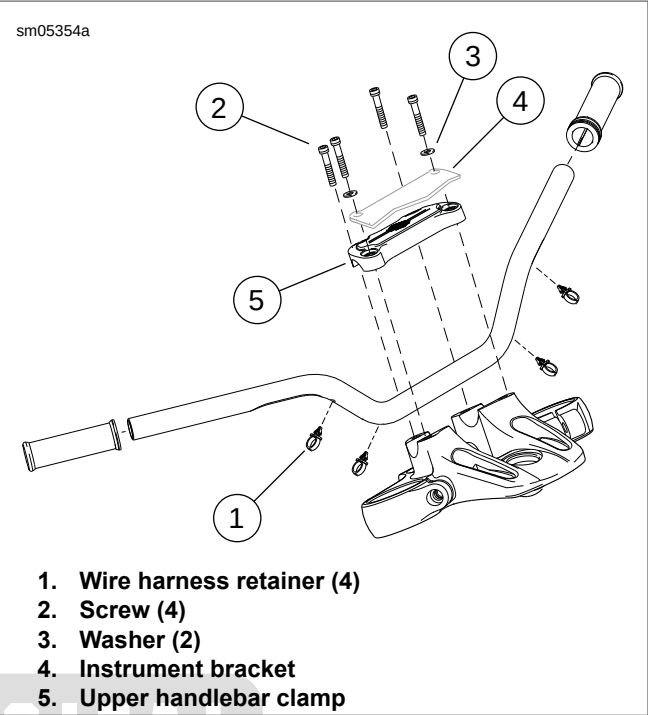

Figure 2-189. Handlebar: XR 1200X
1. See Figure 2-189. Cut and remove four wiring harness retainers (1). Be careful not to cut into wiring harnesses. Discard retainers.
3. Remove two front screws (2) and washers (3). Remove instrument bracket (4).
4. Remove two rear screws (2) and upper clamp (5).